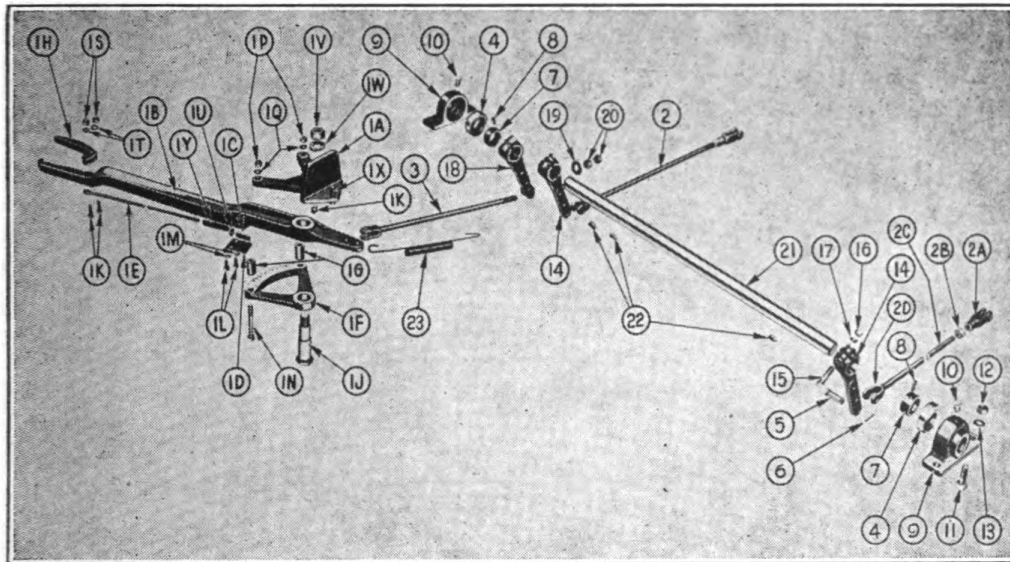

FIGURE 47. HAND PARKING BRAKE—EXPLODED.
20. ADJUSTING HAND PARKING BRAKE (Fig. 47).—*a.* Usually the hand parking brake requires little attention, the minor brake adjustment taking care of parking brake adjustments. However, when an adjustment is required, it consists, essentially, of shortening the brake rod.
21. **DISASSEMBLY OF CROSS SHAFT (Fig. 47).**—*a.* Disconnect the brake rods (2) and (2C) at the levers (14).
b. Remove nuts (20) from brake rod (3).
c. Remove the bolts (11) holding cross shaft journals (9) to frame, and lift the cross shaft assembly (21) out.
d. Loosen the three pinch bolts (15) in two levers (14) and (18).
e. Loosen set screws (8) in collars (7) and tap the two collars (7) and the three levers (14 and 18) off shaft (21).
22. **REASSEMBLY OF CROSS SHAFT (Fig. 47).**—*a.* Reassembly of cross shaft is in reverse of disassembly (paragraph 21, this section).
b. **NOTE:** It is very important that cross shaft works freely. Before coupling brake rods (2C, 2 and 3) test the operation of the cross shaft by moving the levers and cross shaft assembly forward and backward. If cross shaft binds, and a drag is felt, tap the journals (9) forward or backward until the cross shaft works freely.
d. Lubricate the cross shaft journals (9).
23. **REMOVAL OF LEVER ASSEMBLY (Fig. 47).**—*a.* Disconnect brake rod (3) from lever (1B).
b. Remove the three bolts (1X), uncouple spring (23) and lift the assembly off frame.